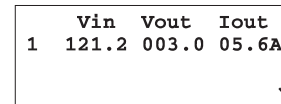

Fig 5-16 Voltage Status Screen
- Press the down arrow navigation key to select “Status,” and then press the enter navigation key. The voltage status screen appears. See figure 5-16.